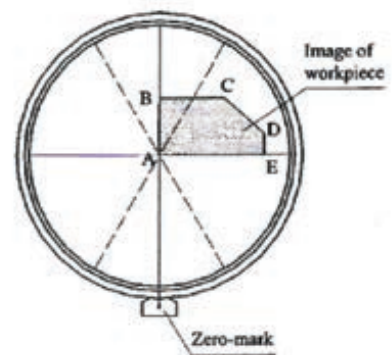

Fig.10 Two-dimensional measuring
- Adjust the measuring edge to be parallel respectively with X-axis and Y-axis. See AE//X ,AB//Y of the Fig.10.